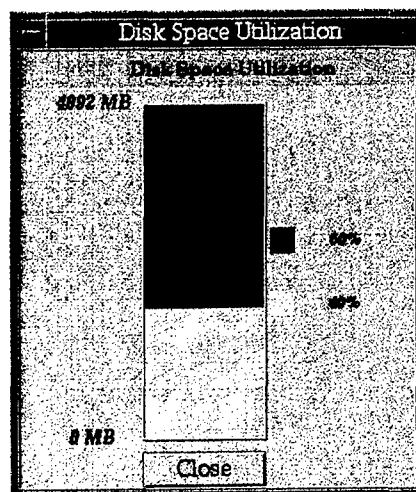

Fig. 72 — System disk usage
- *Disk Usage*: Invokes the Disk Utilization Window (Fig. 72), which graphically depicts the percentages of used and available disk space.